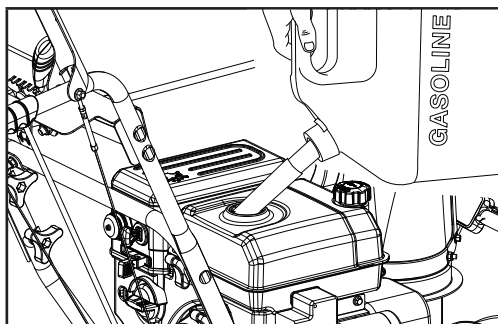

Figure 20
1. Remove the fuel tank cap (Fig. 20).